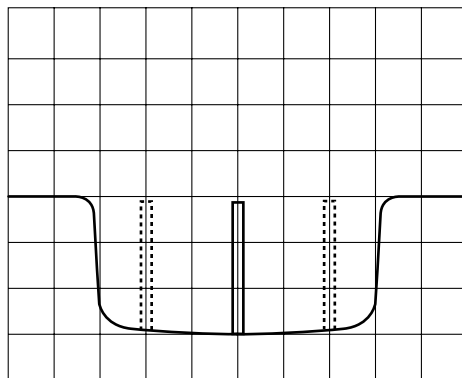

Fig.7
- 8) Move the sheet so that adjustment patterns are displayed on the oscilloscope. (See Figure 7.)